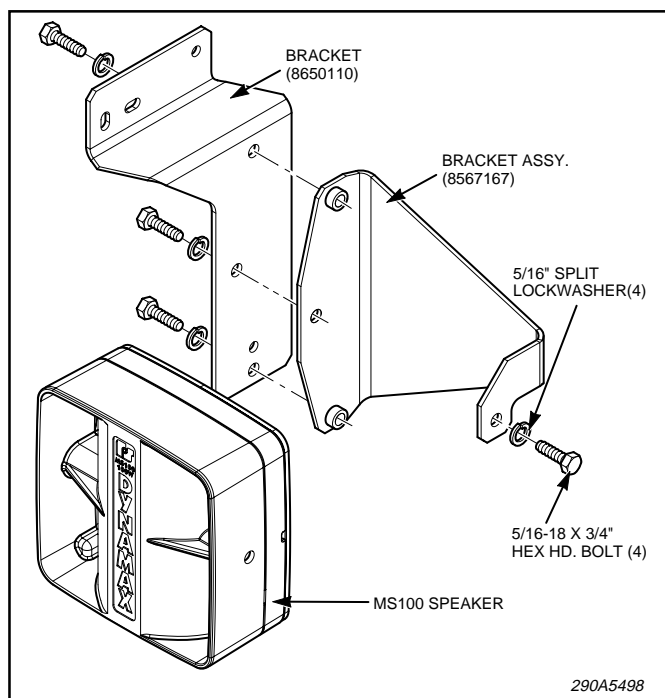

Figure 1.
1. See figure 1. Attach speaker to brackets as shown using 5/16" hardware supplied with the speaker and this kit.